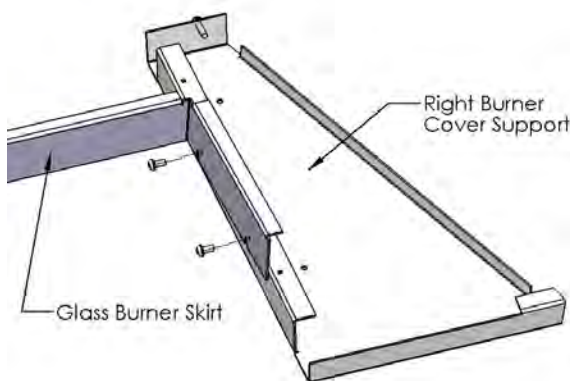

Figure 46: Porcelain Light Covers Close-up.
9. Attach the Glass Burner Skirt to the Right Burner Cover Support using two (2) T-20 Torx screws supplied (see Figure 46) and do the same to the Left Burner Cover Support as you've done on the right side.